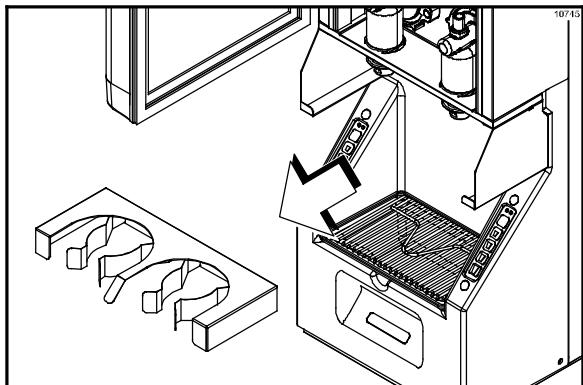

Figure 39
10. Remove the cup holder. (See Figure 39.)